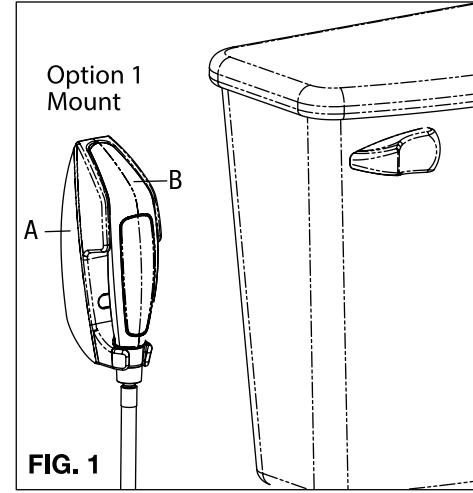

FIG. 1
- Choose an installation location. The Cradle (A) can be mounted in two different ways:
The Cradle can be mounted on the wall using either the included Adhesive Pad (J) or included Screws (M) and Drywall Anchors (L). [Fig. 1]